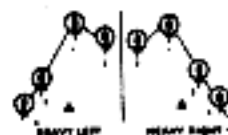

Figure B-3. Heavy Left/Heavy Right.
(1) Heavy Left or Right. Requires a relatively long, wide landing area; presents difficulty in prepositioning loads; restricts suppressive fire by inboard gunners; provides firepower to front and flank (figure B-3).